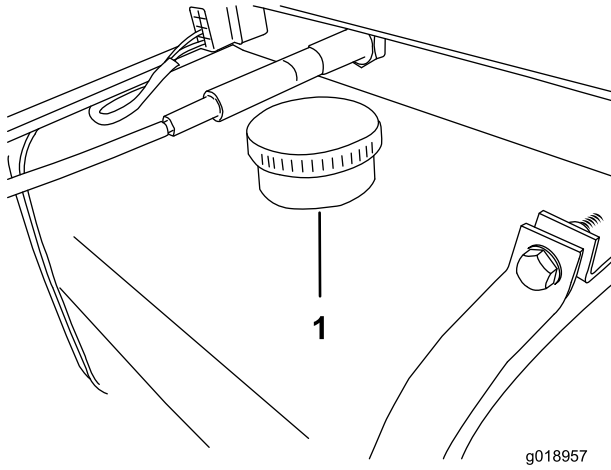

Figure 12
4. Clean the area around the filler neck of the hydraulic tank (Figure 12).